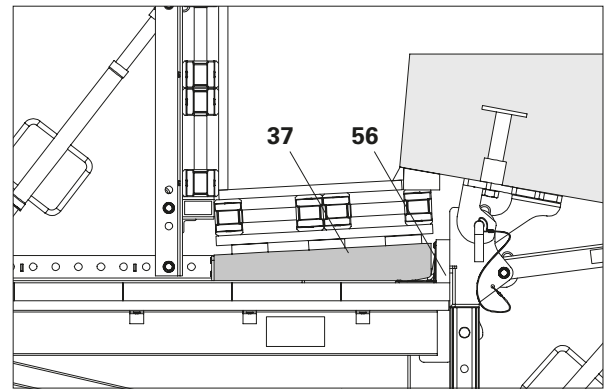

Fig. A4.01a
- Adapt Tie Rod DW15 (**56**) with squared timbers (**37**). (Fig. A4.01a)